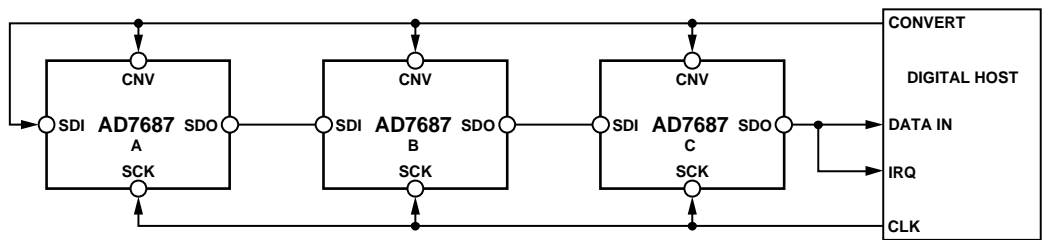
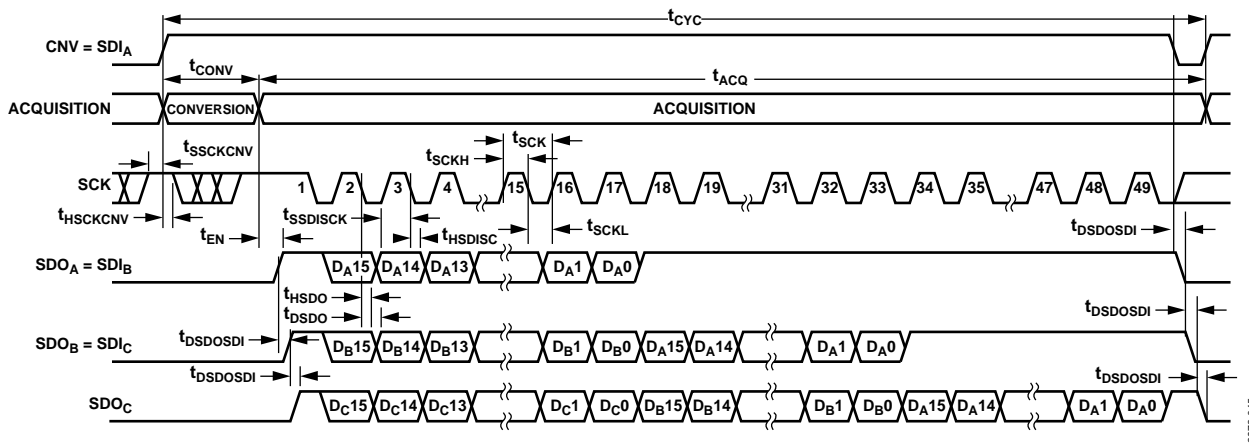

Figure 44. Chain Mode with BUSY Indicator Connection Diagram
Figure 45. Chain Mode with BUSY Indicator Serial Interface Timing
- In the chain mode if SCK is high during the $\overline{\text{CNV}}$ rising edge (see Figure 45).
Figure 44 shows a connection diagram example using three AD7687 devices, and Figure 45 gives the corresponding timing.
When SDI and CNV are low, SDO is driven low. With SDI low and SCK high, a rising edge on CNV initiates a conversion, selects the chain mode, and enables the BUSY indicator feature. In this mode, CNV is held high during the conversion phase and the subsequent data readback. When all ADCs in the chain have completed their conversions, the SDO pin of the ADC closest to the digital host (see the AD7687 C in Figure 44) is driven high. This transition on SDO can act as a BUSY indicator to